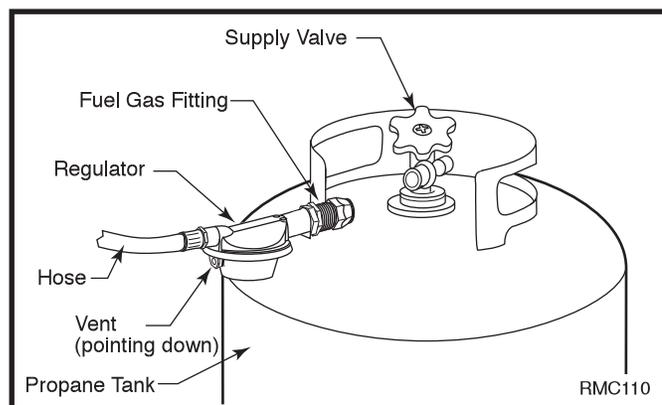

Fig. 5 Attach regulator with vent pointing down.
8. Connect fuel gas fittings on regulator hose assembly to propane tank(s). Turn fuel gas fitting counterclockwise into threads on tank. Tighten firmly using a wrench. **IMPORTANT:** Tighten regulator with vent pointing down. Pointing vent down protects regulator from weather damage. (Fig. 5)